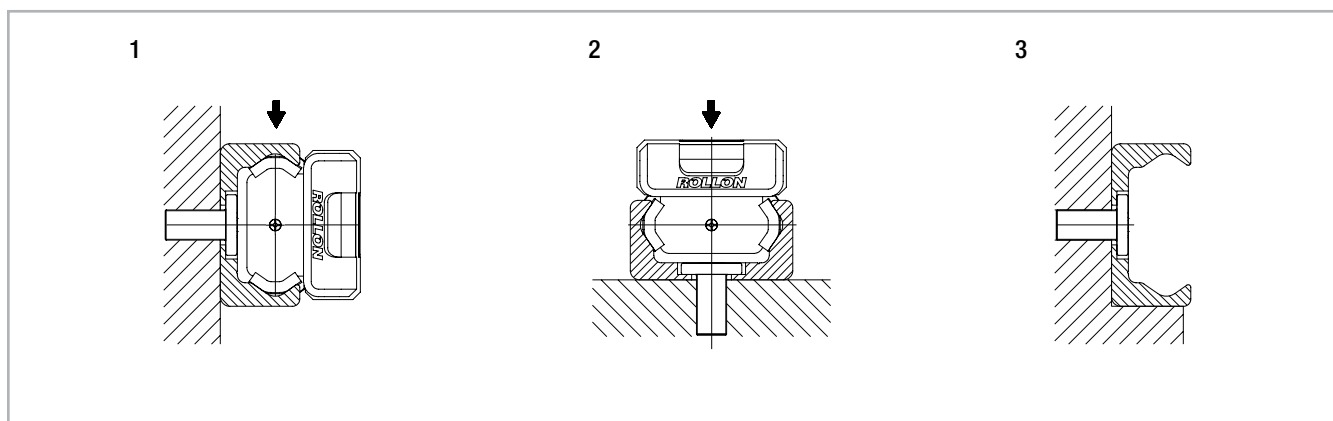

Fig. 157
The T- and K-rails can be installed in two positions relative to the external force. For axial loading of the slider (fig. 157. pos. 2), the load capacity is reduced because of the decline in contact area caused by the change in position. Therefore, the rails should be installed in such a way that the load on the rollers acts in the radial direction (fig. 157, pos. 1). The number of fixing holes in the rail in combination with screws of property class 10.9 is dimensioned in accordance with the load capacity values. For critical applications with vibrations or higher demand for rigidity, a support of the rail (fig. 157, pos. 3) is advantageous.